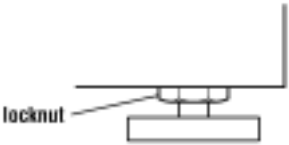

Fig. 2-7
10. When the washer is level, use a 9/16" open-end wrench to securely tighten all four (4) feet locknuts against the pedestal. *(Fig. 2-7)* **The locknuts must be tightened.**